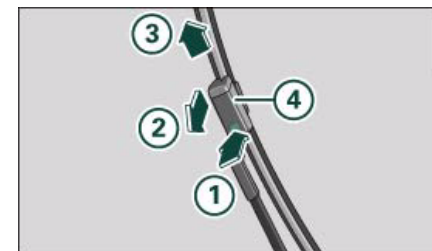

Fig. 66 Removing the wiper blades
- Press the release button ① on the wiper blade
⇒ page 64, fig. 66. Hold the wiper blade firmly and press it forwards slightly ②.
- Slide the wiper blade upwards ③.